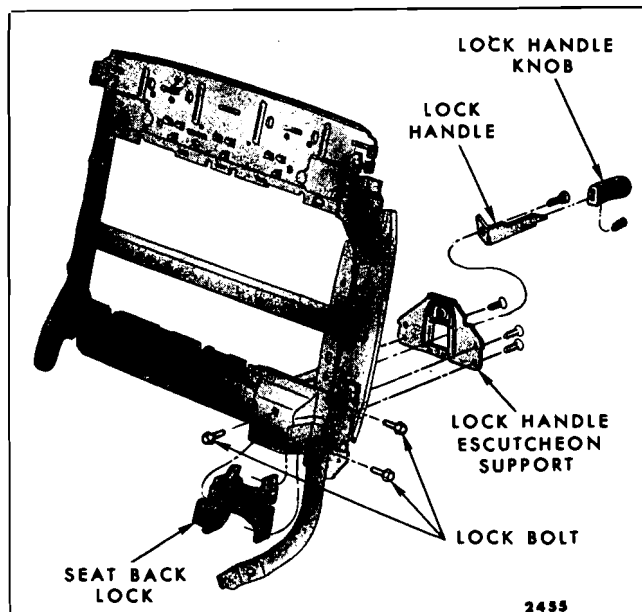

Fig. 15-30—Front Seat Back Lock "A, B & X" Two-Door Styles, Standard Full Width Seat
3. Remove seat back lock handle knob, lock handle escutcheon and lock handle (Fig. 15-30).
4. Remove hog rings securing seat back front and rear trim facings at bottom of seat back; then, turn up trim sufficiently to gain access to lock attaching bolts (Fig. 15-30).
5. Remove seat back lock attaching bolts (Fig. 15-30); then, remove lock assembly from bottom of seat back.